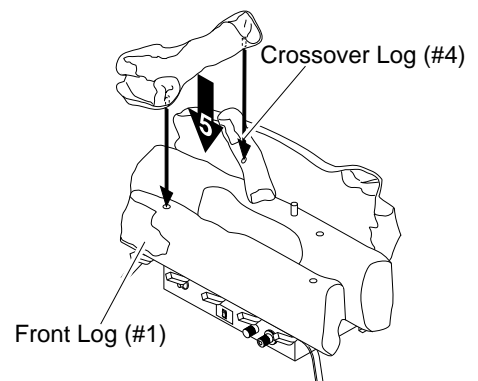

Figure 30 - Installing Crossover Log (#5)
5. Locate pegs on the bottom of crossover log (#5). Slide these pegs into the holes located in crossover log (#4) and front log (#1). See Figure 30.